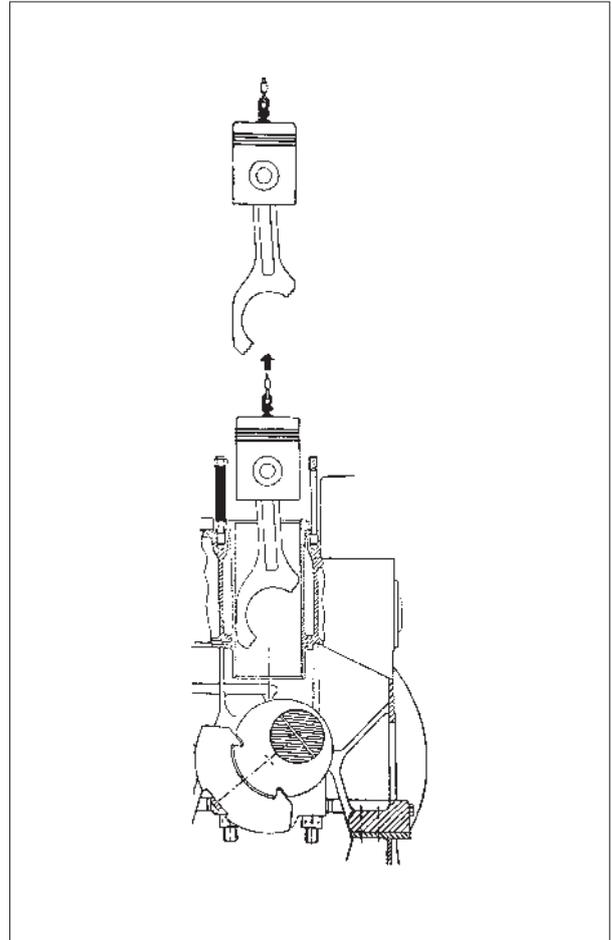

Fig. 4. Lift of piston and connecting rod assembly.
11) Lift the piston and connecting rod assembly up through the cylinder liner and out of the engine, see fig. 4.